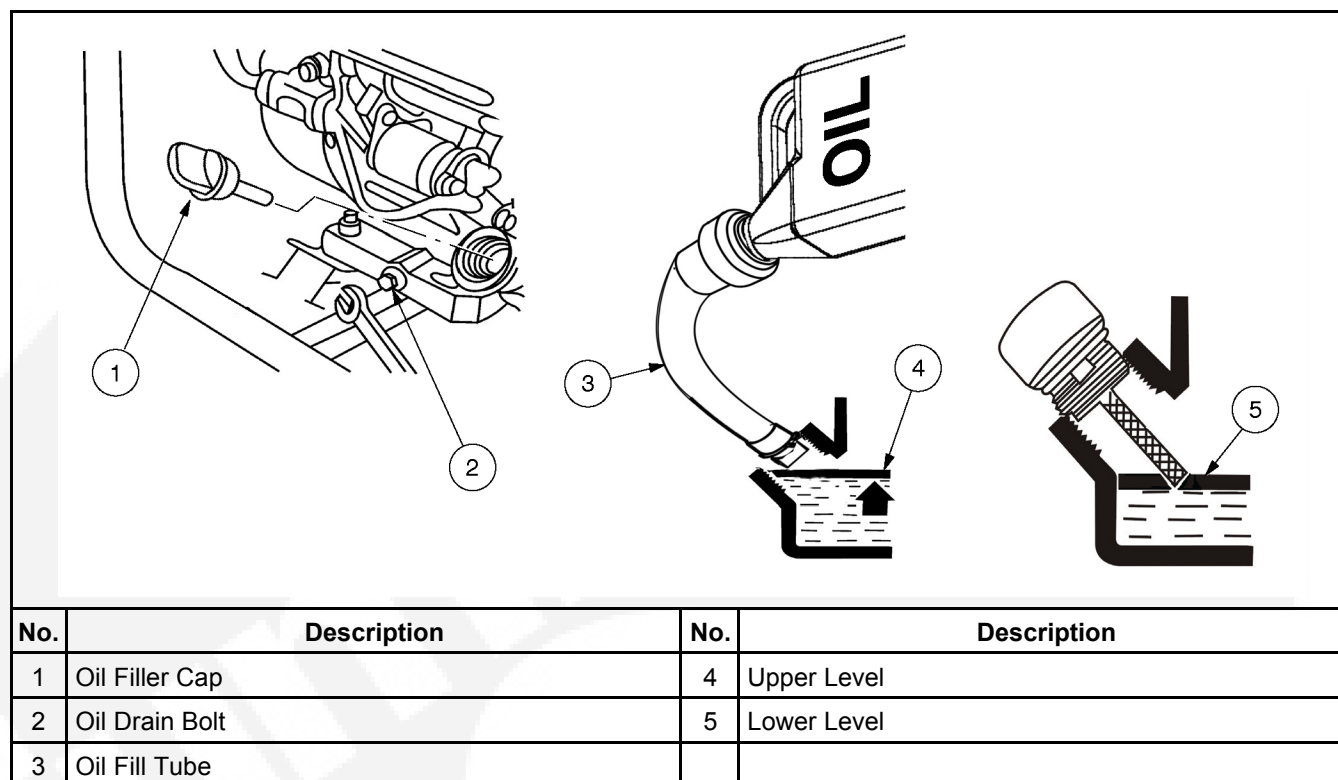

FIGURE 8. OIL CHECK, FILL, AND DRAIN
Refer to the Periodic Maintenance Schedule Table in the Maintenance Schedule section for scheduled oil changes and Figure 8.
2. Stop the generator set and remove the oil fill cap (see Figure 8).